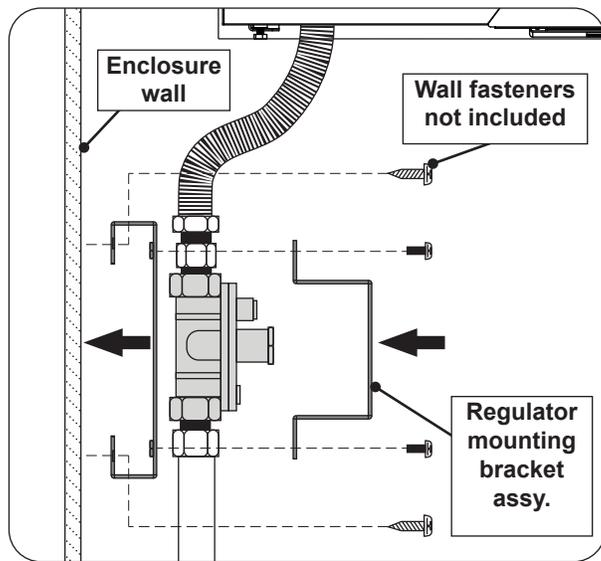

Fig. 24-2 Mount regulator to enclosure wall
4. If the gas connections are not rigid and are unable to hold the regulator in a secure manner, use the provided regulator mounting bracket assembly to fasten the regulator securely to the enclosure inner wall. See Fig. 24-2.